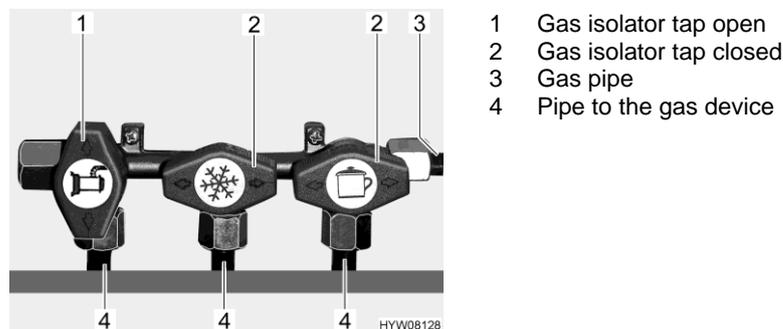

Fig. 89 Gas isolator taps position (example)
- Position the gas isolator tap of the corresponding gas device parallel (Fig. 89,1) to the pipe (Fig. 89,4) leading to the gas device.
- Position the gas isolator tap of the corresponding gas device transverse (Fig. 89,2) to the pipe (Fig. 89,4) leading to the gas device.